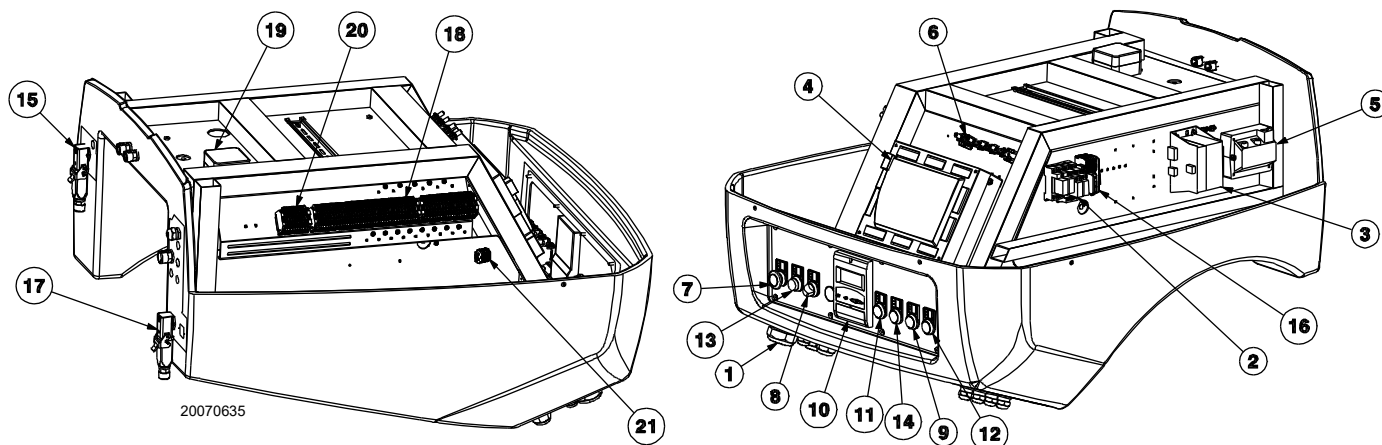

Fig. 5
- **Flame control lockout:** if the pushbutton 13)(Fig. 5) (red led) lights up, it indicates that the burner is in lockout. release by pressing the pushbutton 13)(Fig. 5).